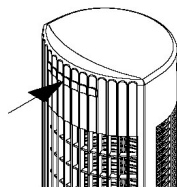

Fig. 1
- Push the remote control towards the main body (Fig. 1).